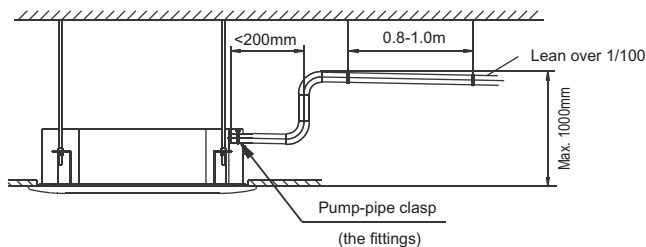

Fig.6-2
- 7) In case the drainpipe outlet is higher than pumping connective pipe of the main body, the drainpipe must be arranged upwards vertically by using connective assembly of the water outlet for vertical bending, and the height of the drainpipe shall set to the defrosting pan surface no more than 1000mm, otherwise, too much backflow while shutdown would leads to overflow (Refer to Fig.6-2).